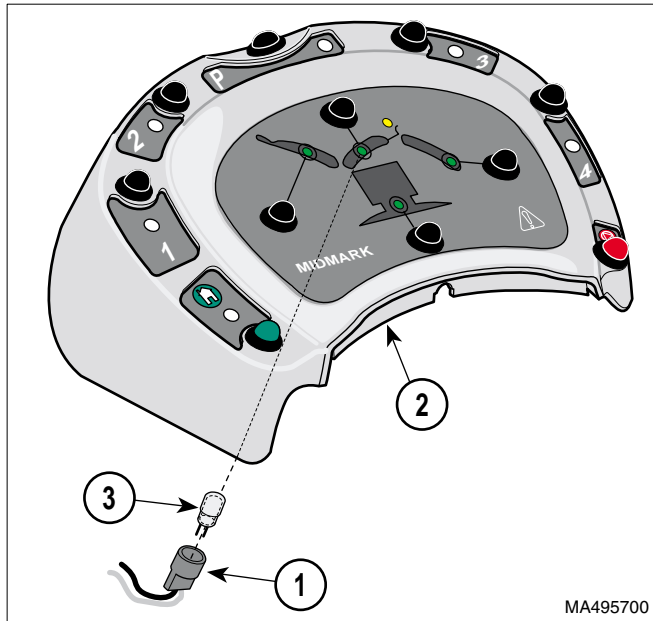

Figure 4-37. Typical Foot Control Lamp Removal / Installation
- (1) Remove foot control top. (Refer to para 4.21 **or** 4.22).
- (2) Remove bulb socket (1, Figure 4-37) from foot control top (2).
- (3) Remove bulb (3) from bulb socket (1).